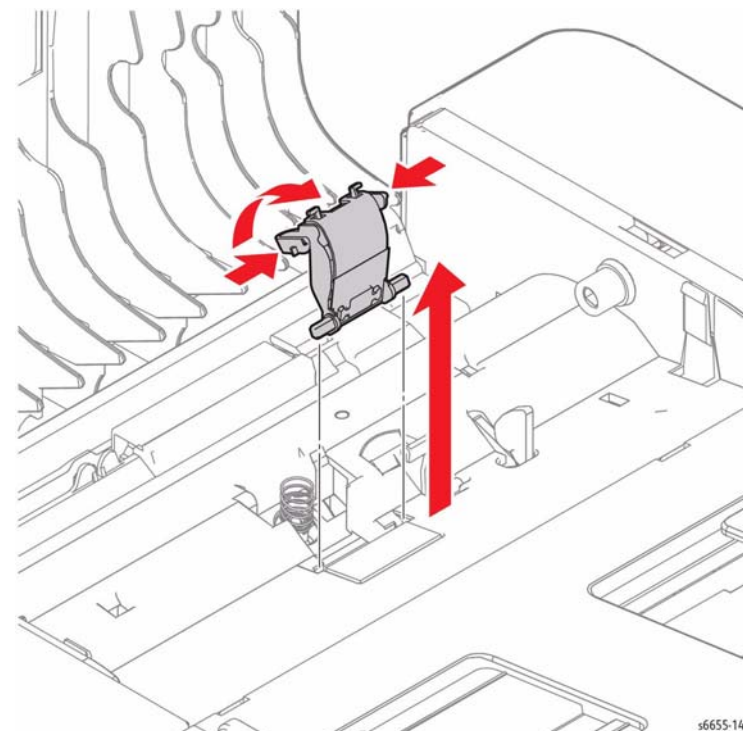

Figure 2 Remove the IIT Separation Pad
4. Refer to Figure 2 to release two clips and remove the Separation Pad.